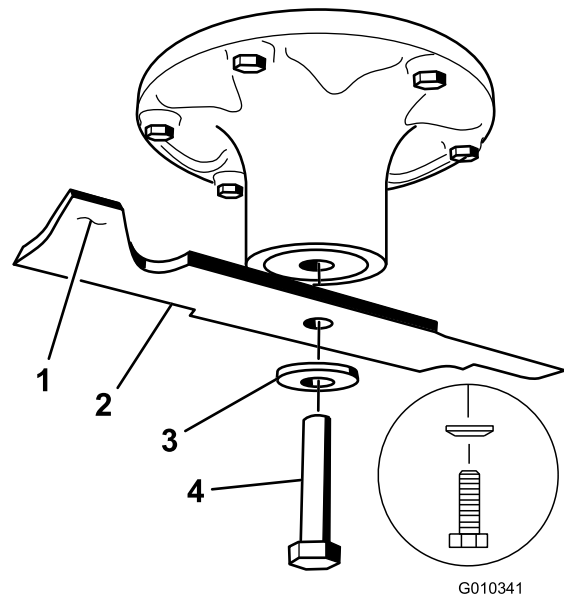

Figure 79
2. Remove the blade bolt, curved washer, and blade from the spindle shaft (Figure 79).